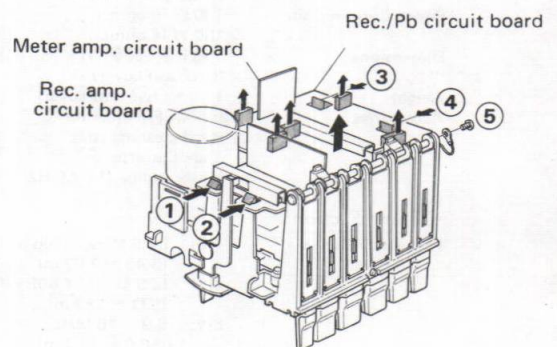

Fig. 5
- 1) Push 4 clips ((1) through (4)) in directions shown by arrows to disengage from Rec./Pb circuit board and pull circuit board upward to remove from mechanical assembly. However, first remove connectors (Nos. 1, 4, 6, 7, 9) and screw (5).
* All connectors are numbered. (Refer to Fig. 5)